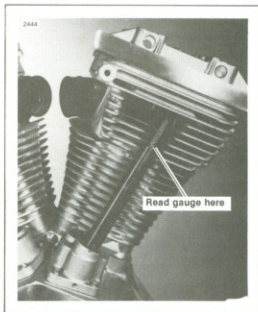

Figure 3-15. Push Rod Gauge
- See Figure 3-15. Insert the round end of the correct color coded male adaptor (part of PUSH ROD HEIGHT GAUGE TOOL, Part No. HD-34199) through the push rod opening in the cylinder head, from the bottom side.